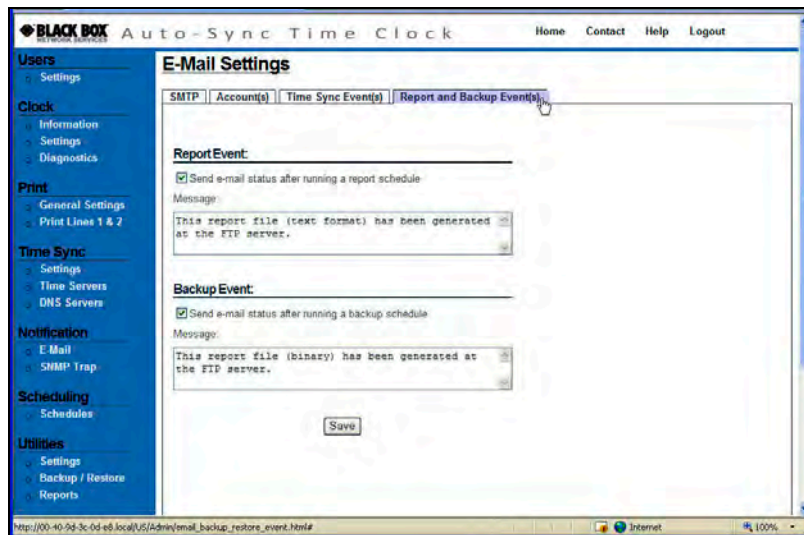

Figure 4-18. E-Mail Settings for Report & Backup Events.
14. Click on the **Report & Backup Event(s)** tab and the E-Mail Settings screen to select these events for email notification will appear (see *Figure 4-18*).